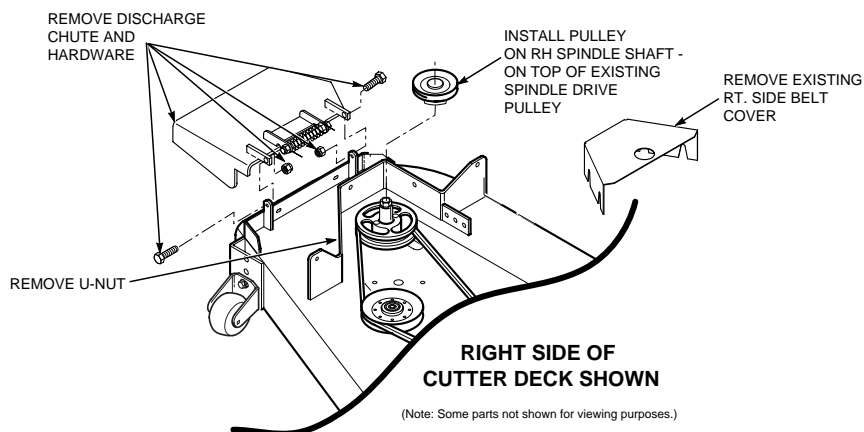

FIGURE 1
2. Remove the discharge chute from the cutter deck. See Figure 1.
3. Remove the right side belt cover to gain access to the spindle assembly. Remove the front u-nut from the cutter deck bracket. See Figure 1.
4. Install the grass catcher pulley onto the spindle assembly. Apply loctite to both pulley setscrews and tighten. See Figure 1.